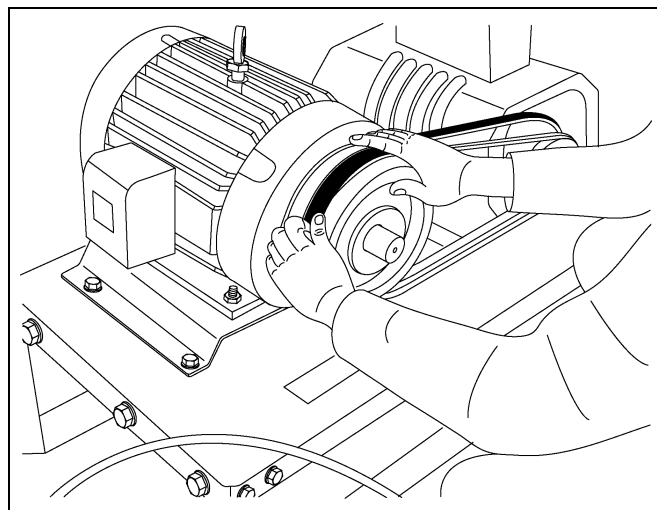
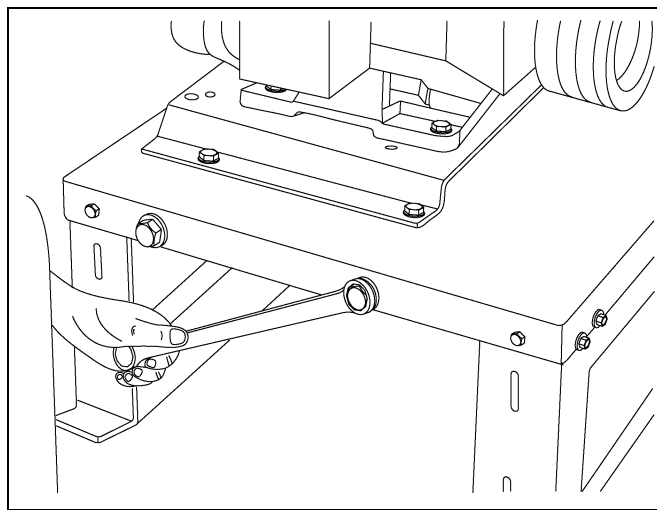

Figure 7F
Figure 7G
5. Place the matching set of V-belts on the pulleys. Tighten the belts by evenly turning the cap screws clockwise. Belts should have 3/8" deflection at 10 pounds pressure per belt. (See Figure 7F and Figure 7G.)